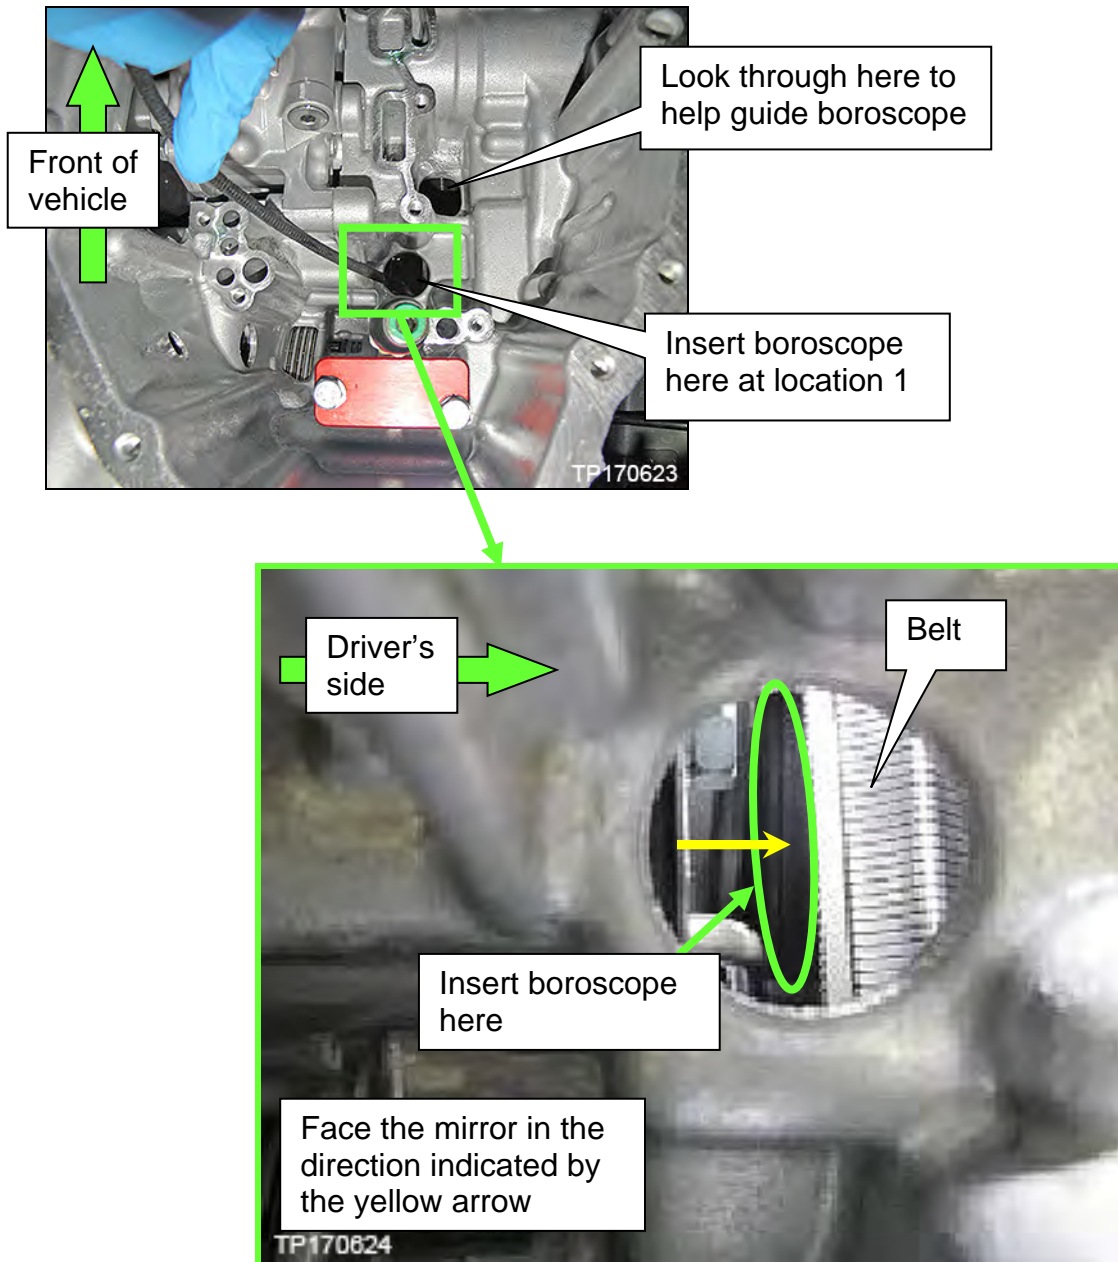

Figure 5C
- c. Insert the boroscope where shown in Figure 5C as follows: